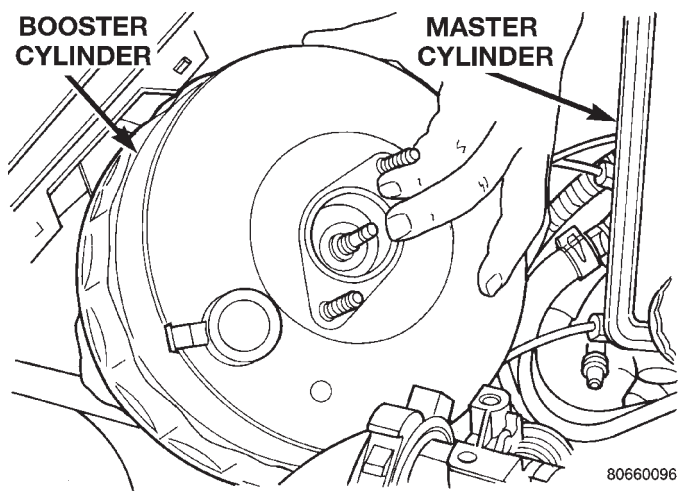

Fig. 90 Removing Vacuum Booster
(10) Slide the vacuum booster up and to the right (mounting holes are slotted) on the dash panel, then tilt outboard and up to remove from vehicle (Fig. 90).